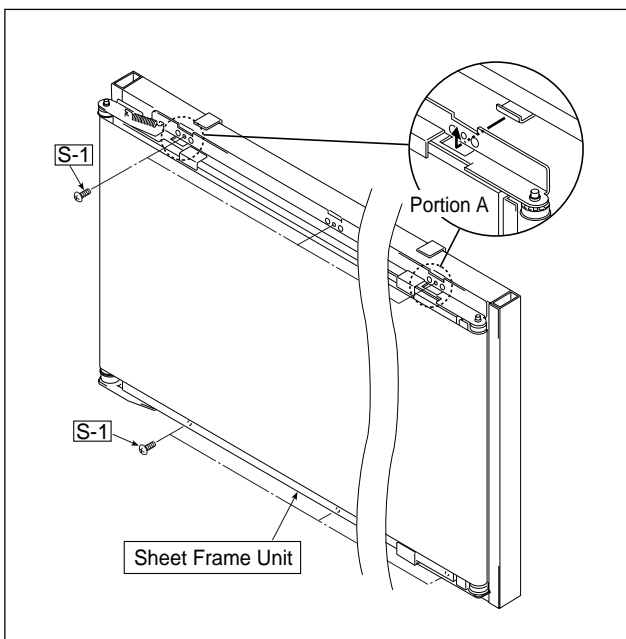

Fig. 10
7) Remove the Sheet Frame Unit. (See Figs. 10.)
1. Remove the "S-1" screws shown in Fig. 10, and remove the Sheet Frame Unit.
- The Sheet Frame Unit is caught on a hook as shown in the portion A of Fig. 10.